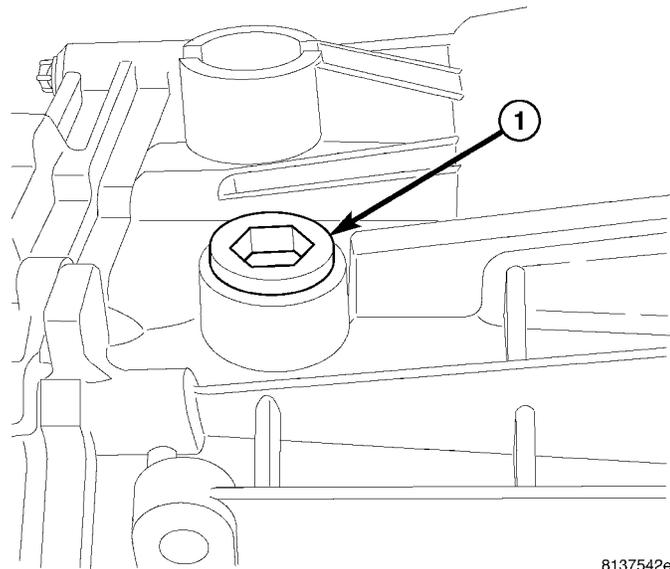

Fig. 2 FILL PLUG
- (3) Install drain plug and remove fill plug (1) (Fig. 2).
- (4) Fill transmission with 1.5L (3.17 pts.) of Mopar® Manual Transmission Lubricant MS-9224 or to the bottom of the fill plug (1) hole.